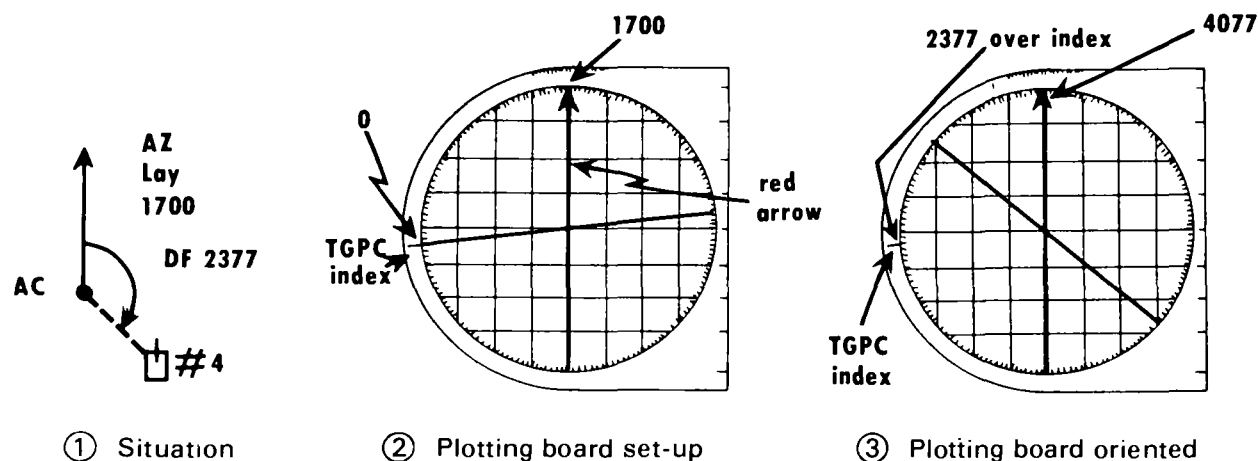

Figure 10-4. Setup and orientation of the plotting board.
b. To prepare the plotting board for use, (see fig 10-4) set off the azimuth of lay by rotating the transparent disk until that azimuth is over the red arrow on the gridded base. *THE OUTER (BLACK) SCALE IS USED.* With a pencil or pen, place an index on the base of the plotting board opposite the zero on the outer (black) scale - this is your TGPC index.